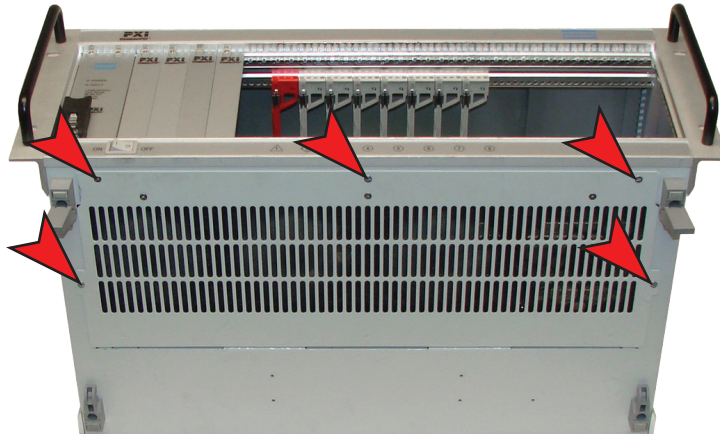

Figure 3.2 - Locations of the 5 screws securing the fan tray to the underside of the chassis
The 40-914-101 version of the chassis is fitted with 4 fans that can each be set to one of three speed settings. For office and laboratory use it is recommended that the medium speed setting is used. For use in a rack where higher temperatures may be experienced and fan noise is less of an issue, the speed can be set to high. The low speed setting should be used with caution in applications where there is low module power dissipation and no risk of the chassis overheating. The following procedure describes the sequence for changing the fan speed. Note: Figures 3.2 and 3.3 show an 8-slot chassis with 3 fans, the procedure for a 14-slot chassis with 4 fans is basically the same.
3. Remove the 5 crosshead screws securing the fan tray to the underside of the chassis - as shown in Figure 3.2.